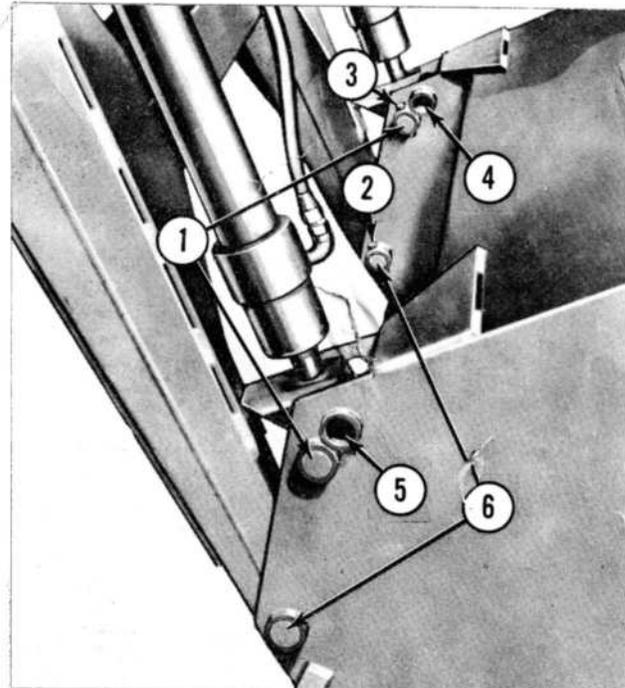

Figure 21
1. Attach the bucket or fork to the loader lift arms by using the 1" x 4 1/2" straight pins (6), Figure 21.
2. Secure the straight pins with two 5/16" x 1 7/8" hex head bolts (2), lockwashers and nuts.
3. Attach the loader bucket cylinders to the bucket or fork with the 1" x 4 1/2" straight pins (1).
4. Secure the straight pins with the 5/16" x 1 7/8" hex bolts (3), lockwashers and nuts.